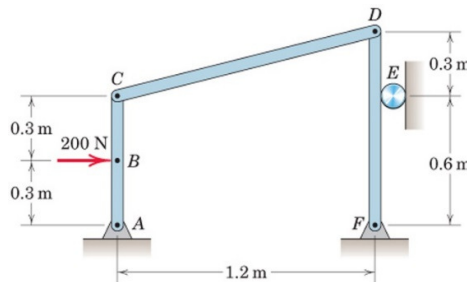

Fig. 1
Q. No. 1 For the frame shown in Fig. 1, determine the force supported by the roller at E.